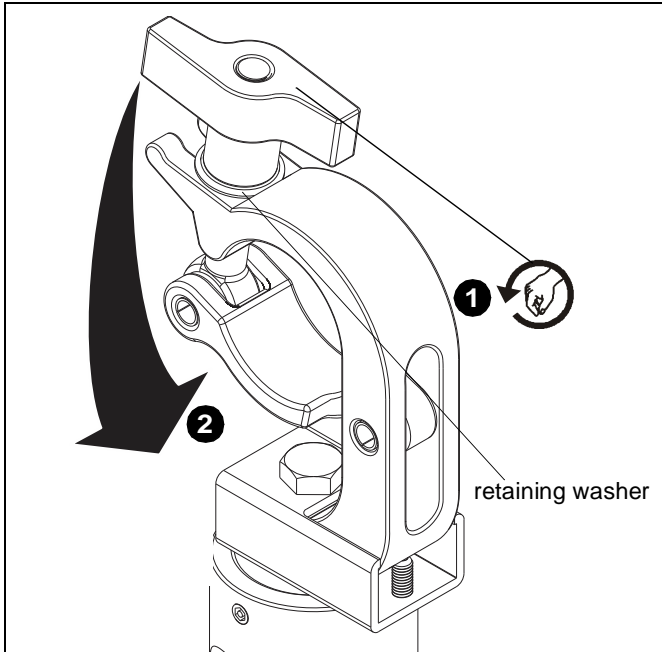

Figure 1
1. Turn knob counter-clockwise until the knob and retaining washer can be removed from the upper bar on the clamp. (See Figure 1)
2. Open the clamp so that it can be installed around a pipe or truss. (See Figure 1)